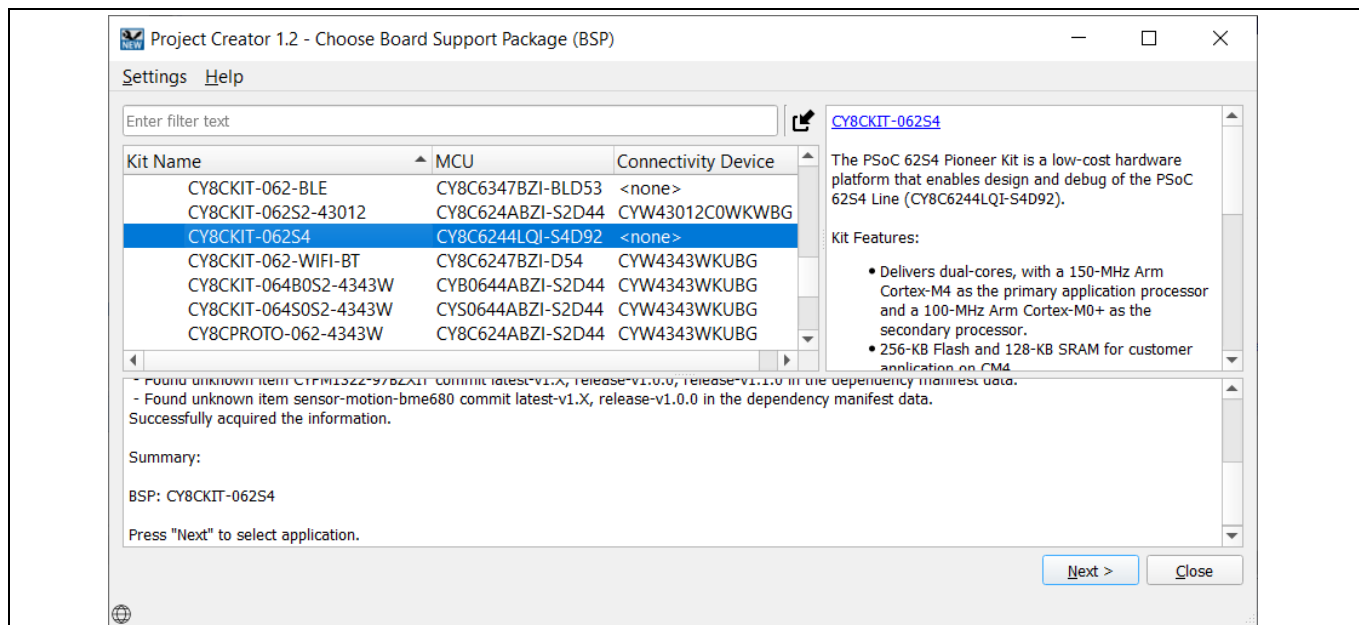

Figure 8 Board Support Package (BSP) window
- b) Select the CY8CKIT-062S4 in the “Choose Board Support Package (BSP)” window and click **Next**, as shown in Figure 8.